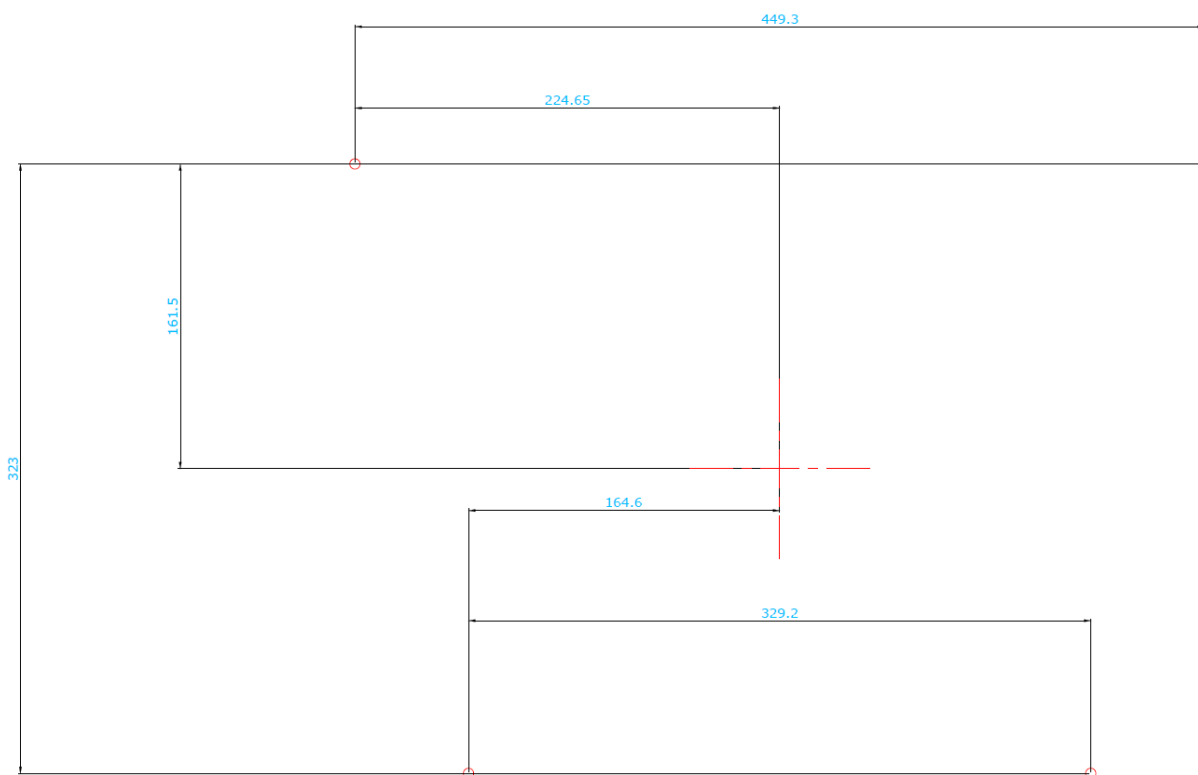

Figure 3. Mounting holes drilling template (dimensions in mm).
4. Referring to **Figure 3** (overleaf), mark out the four holes required to secure the wall mount to the wall.